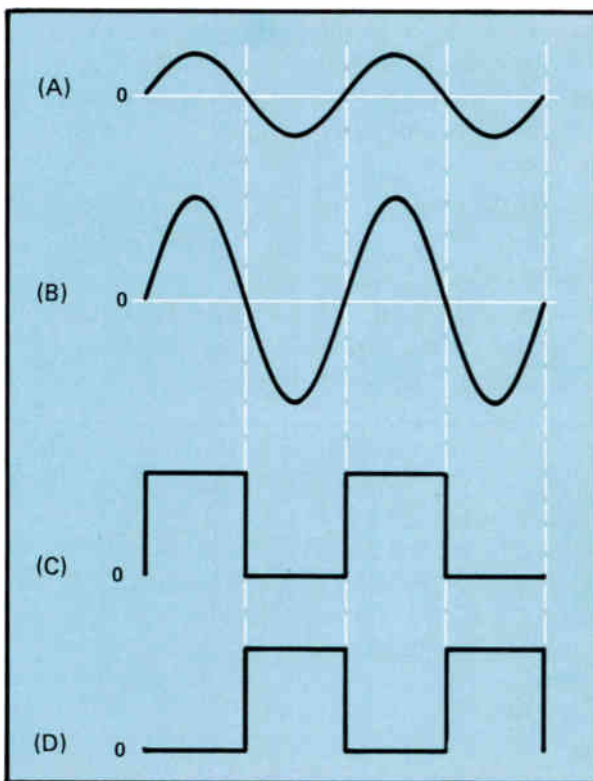

Figure 23. A comparison of signals from a linear circuit and a digital circuit.
Linear circuits are used to amplify the signal when we want the amplified circuit to be an exact copy of the original input. For example, if a signal like that shown in Fig.23(A) is fed to a linear amplifier, the output will be like Fig.23(B). The output is the same, but it is greater in amplitude.
A digital circuit has only two output conditions: maximum positive output and zero output. If we feed a signal such as shown in Fig.23(A) to a digital circuit that requires a *positive* signal to produce an output signal, we will get an output like that shown in Fig.23(C). If we feed a signal like that shown in Fig.23(A) to a digital circuit that requires
a *negative* voltage to produce an output, we will get an output like that in Fig.23(D). Again, notice there are only two output levels: maximum positive and zero.